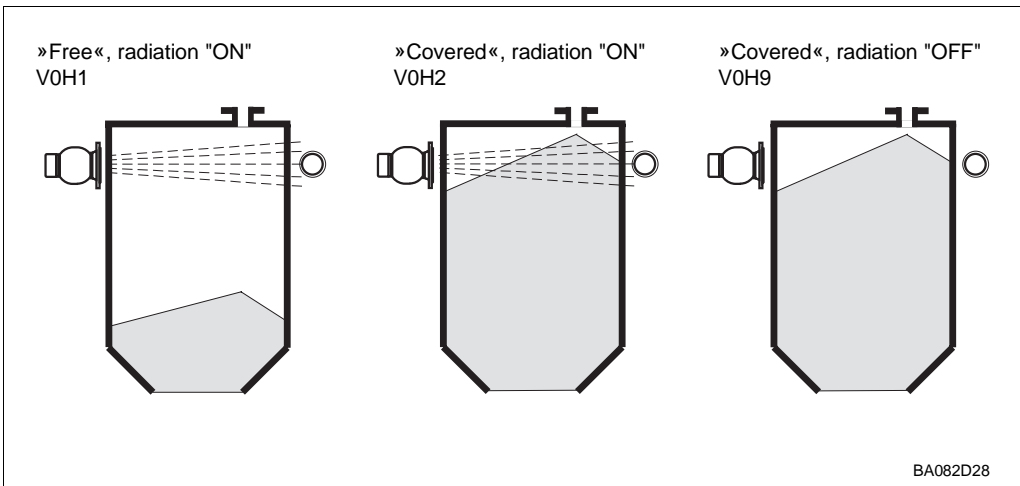

Fig. 4.1: Parameters of the standard calibration
- the countrate when the barrier is free at V0H1, s. Fig. 4.1
the countrate when the barrier is covered at V0H2, s. Fig. 4.1 (often simulated by switching off the radiation source)